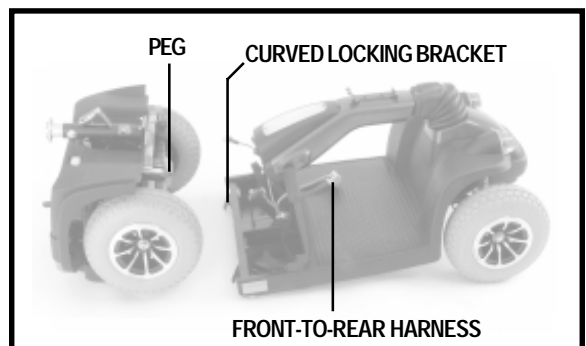

Figure 24. Frame Sections
2. Lift the front section up until the lower pegs are no longer in the slots. See figure 24.
1. Position the front and rear sections of your scooter as shown in figure 24.
2. Align the lower slots of the front section with the corresponding pegs on the front of the rear section. See figure 24.
WARNING! Position the front-to-rear harness so it will not become pinched between the frame halves when pivoting the rear section forward. See figure 24.